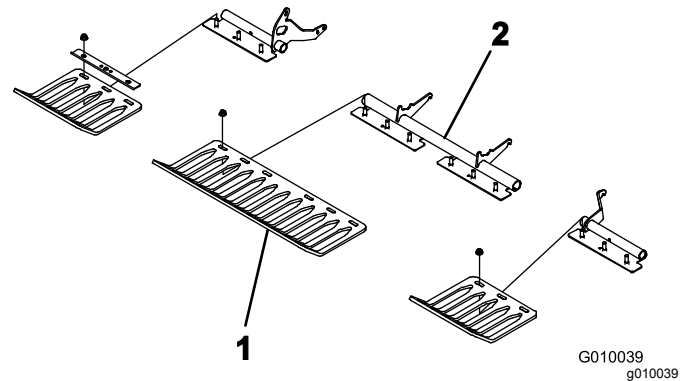

**Figure 23**
- Mount a tine holder to each tine arm with 3 bolts (1/2 x 1-1/4 inches) (Figure 23). Torque the bolts to 101.6 N·m (75 ft·lb).